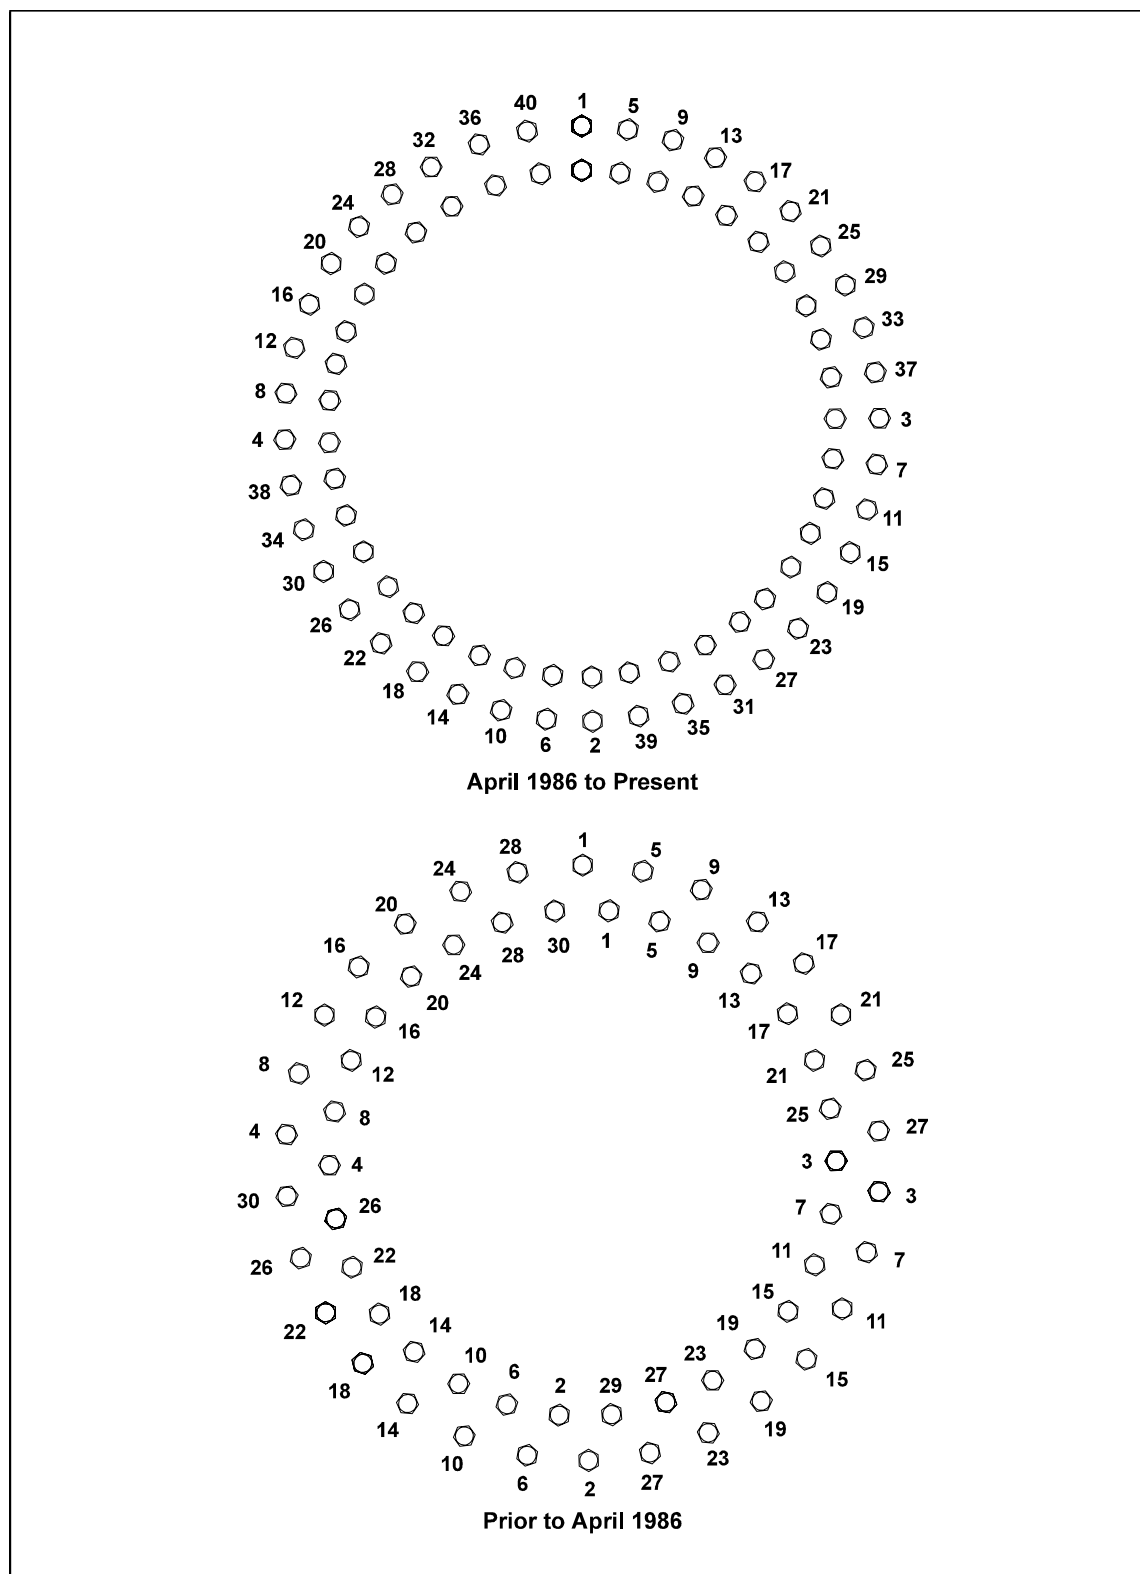

Figure 2-32. Swing Bearing Torquing Sequence
3. Swing Bearing Torquing Sequence, see Figure 2-32.